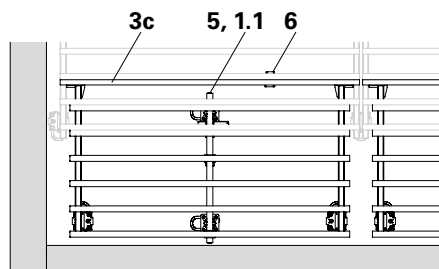

Fig. A8.07
In the case of narrow transverse infill areas and high slab loads, relieve the load on the Filler Element GFC (3c) centrally using the Traverse GF 100 (5) and two props without prop head (1.1). (Fig. A8.07)